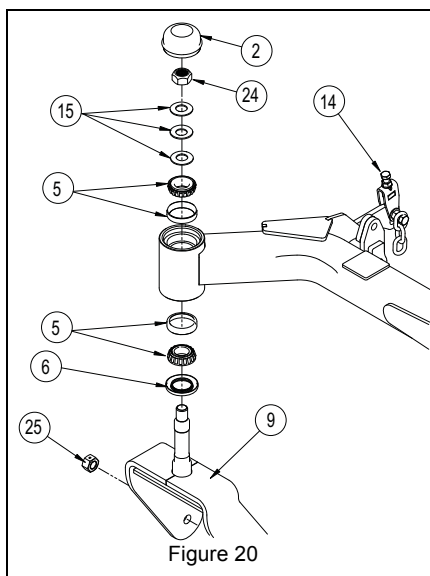

Figure 20
3. Remove the cap (2), the 3/4" locknut (24), the three 3/4" belleville washers (15), and the front wheel weldment (9), see figure 20.
6. Measure the height of the blade tips on both 1 and 2 and adjust the front adjustment bolts (see figure 20, item 14) and the rear U-bolts to ensure the deck is level from left to right.